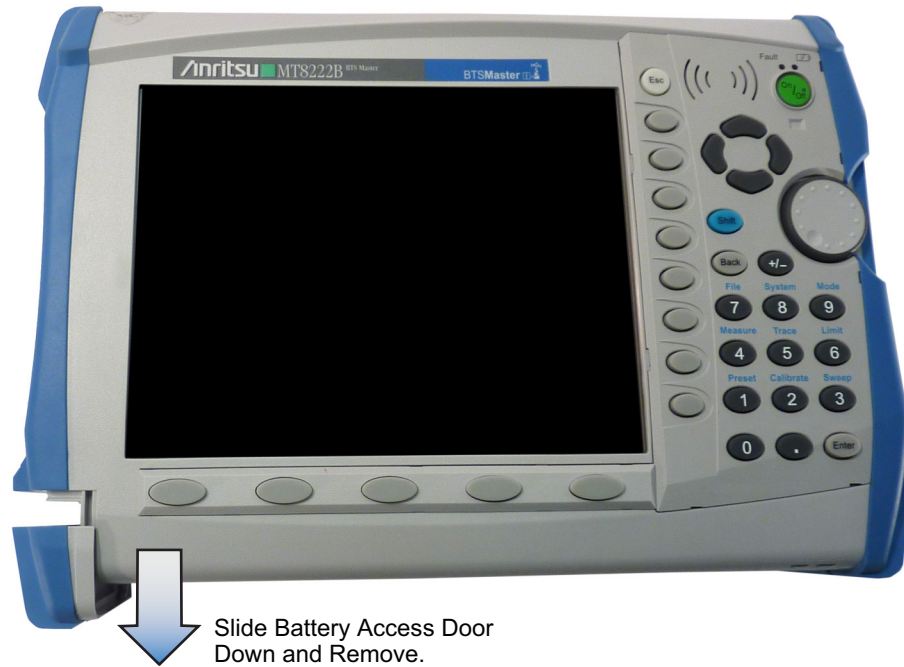

Figure 7-3. Removing the Battery Access Door
3. Remove the battery access door as shown Figure 7-3.